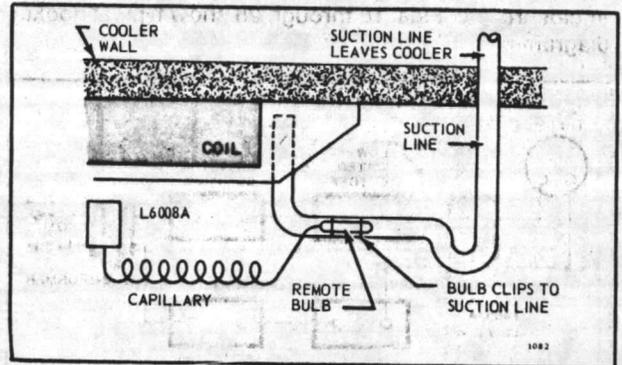

FIG. 16—ATTACHING REMOTE BULB TO HORIZONTAL SUCTON LINE.
4. Attach the sensing bulb to the suction line with clips or straps (Fig. 16).